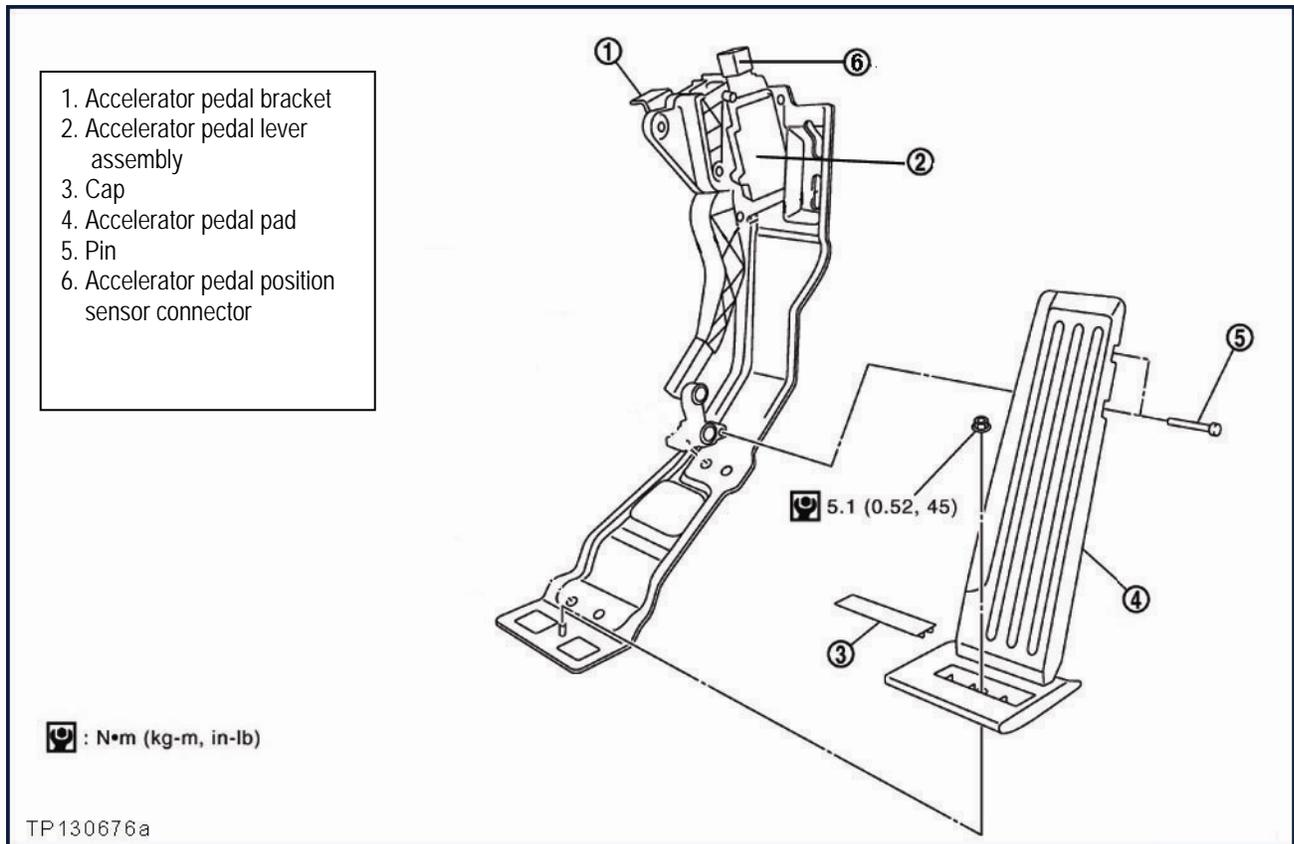

Figure A1
NOTE: Refer to Figure A1 as needed while performing this procedure.
5. Remove the pins from the back side of the accelerator pedal pad (see Figures A1 and A4).